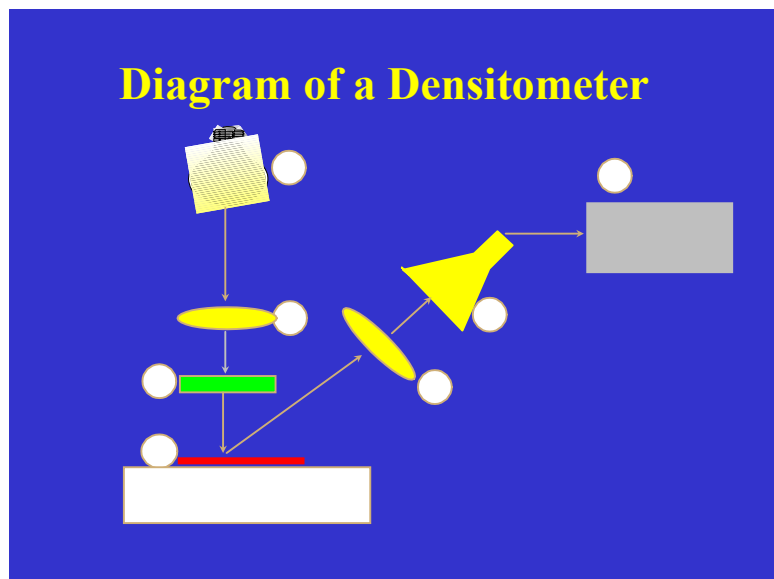

Figure 1
A densitometer, in order to measure a printed sample, will produce light from a stabilized source (1) (See Figure 1). The light passes through a lens (2), where it is focused on the printed surface. Depending on the film thickness and the pigmentation of the ink involved (4), part of the light is absorbed. The non-absorbed content of the light is reflected by the surface of the printed stock. A lens system (5) now captures the reflected light returning from the ink film at an angle of 45 degrees to the light source, and focuses them into a receiver (Photo Diode) (6).